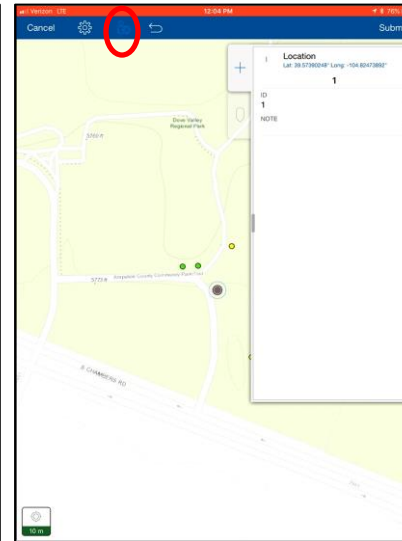

Figure 7
7. Edit the notes for the point and tap the **Location** icon (Figure 7)